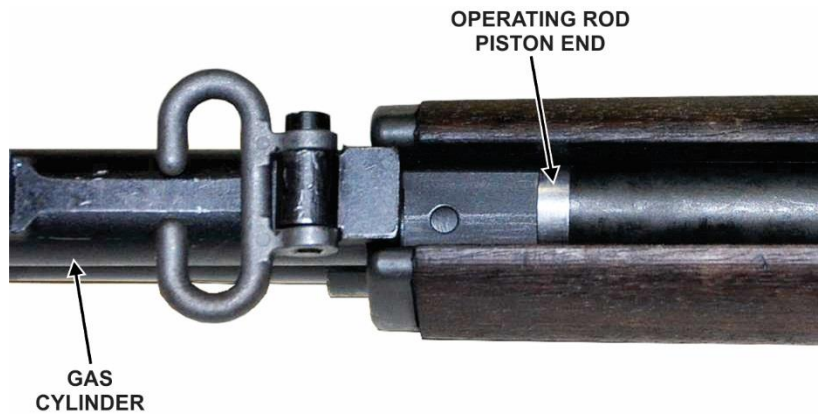

Figure 38. Operating rod piston end insertion
- 8) To replace the operating rod, place the piston end into the gas cylinder while weapon is inverted (fig 38).